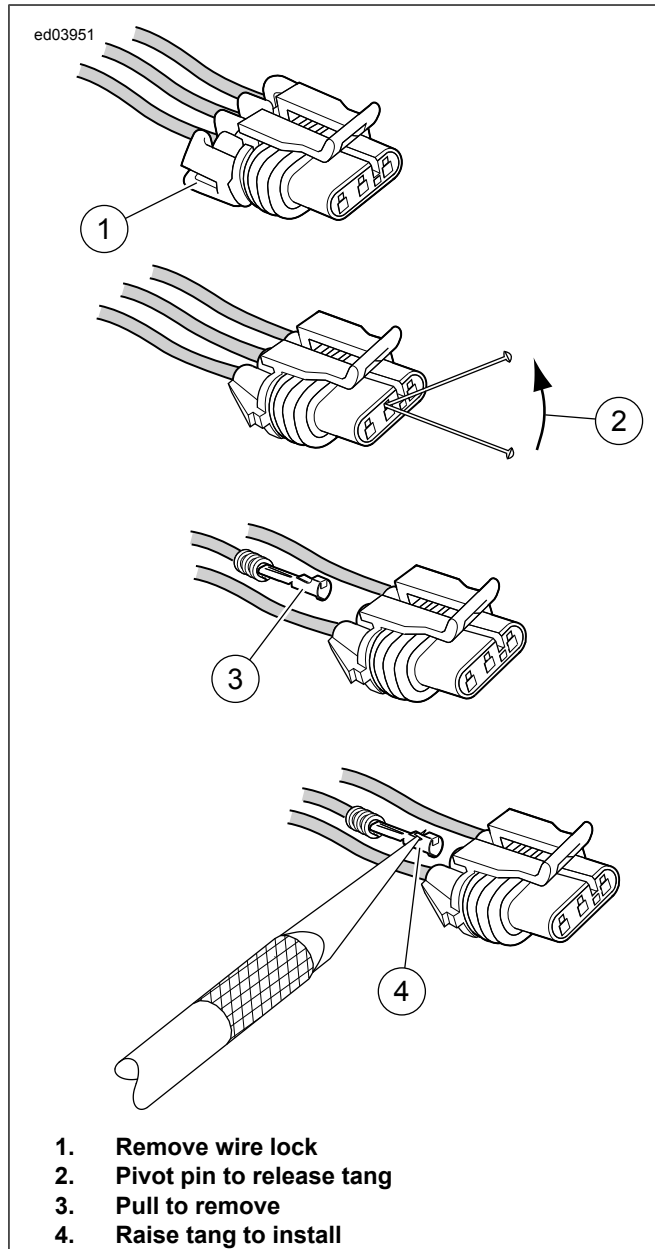

Figure B-11. Removing Delphi Metri-Pack Sealed Connector: Push-to-Seat
1. See Figure B-11. Remove secondary lock from wire end of connector.